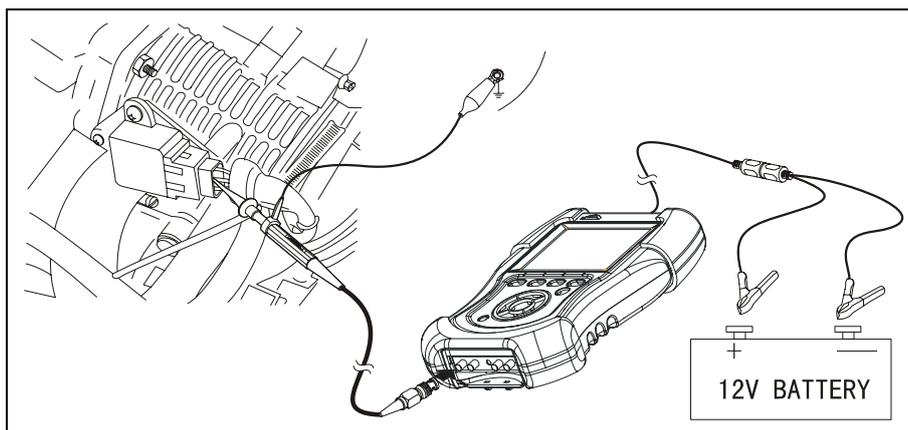

Fig. 3-9
When connecting KT600 to extension line for power supply, choose battery or cigar igniter as power supply according to the battery position of vehicle mode tested. All connecting diagrams in this users manual take power supply by battery as example. If choosing cigar igniter connector, confirm that cigar igniter has 12V battery voltage first. Connect test probe to Channel 1 (CH1 port), and then connect the small alligator clip on test probe to the negative of battery or grounding, pierce test probe into the TPS signal line. Connecting diagram is shown as Fig.3-9.
1. Connect equipment according to Fig.3-9, switch on power supply switch of KT600;